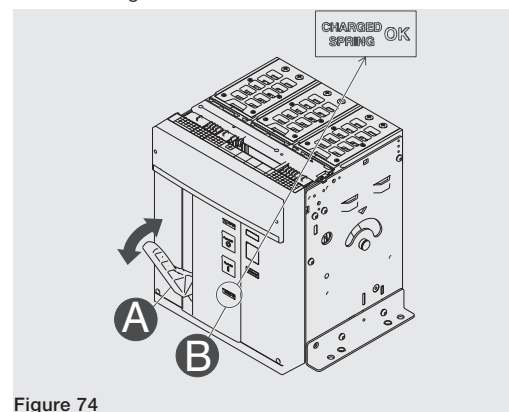

Figure 74
2. Charging the springs - Pull the lever [A] downwards several times until the springs charged signalling device [B] is "yellow - CHARGED SPRING" as indicated in Figure 74.